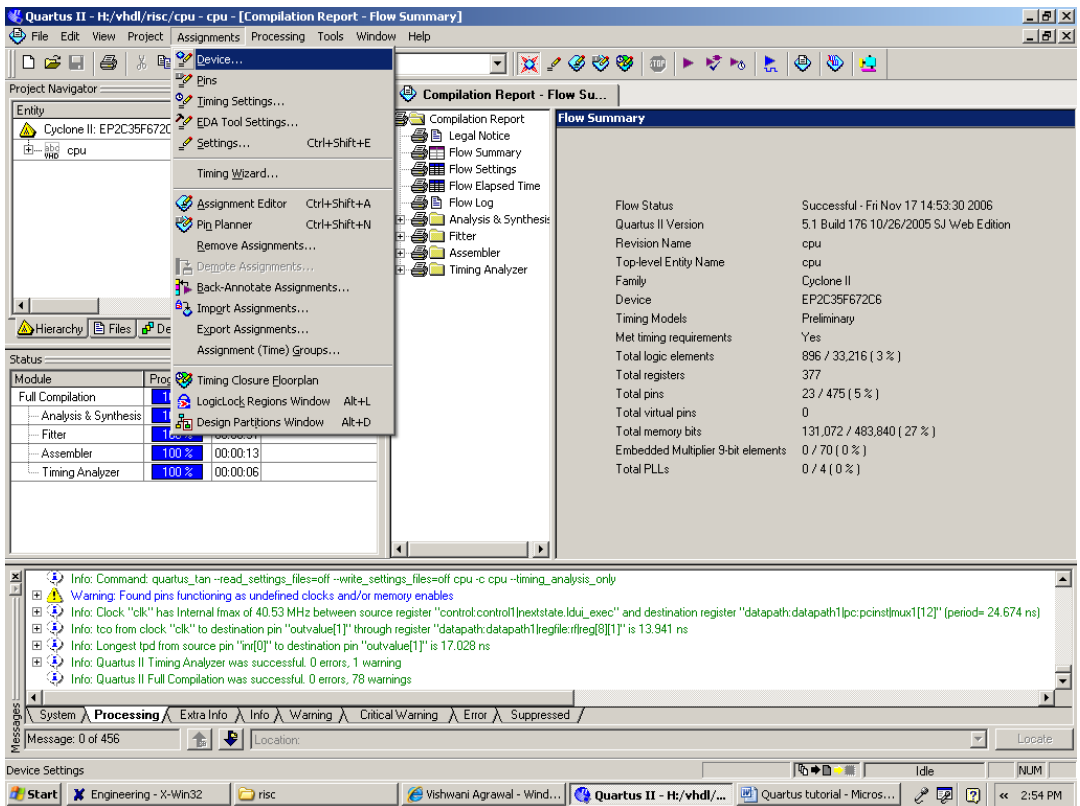
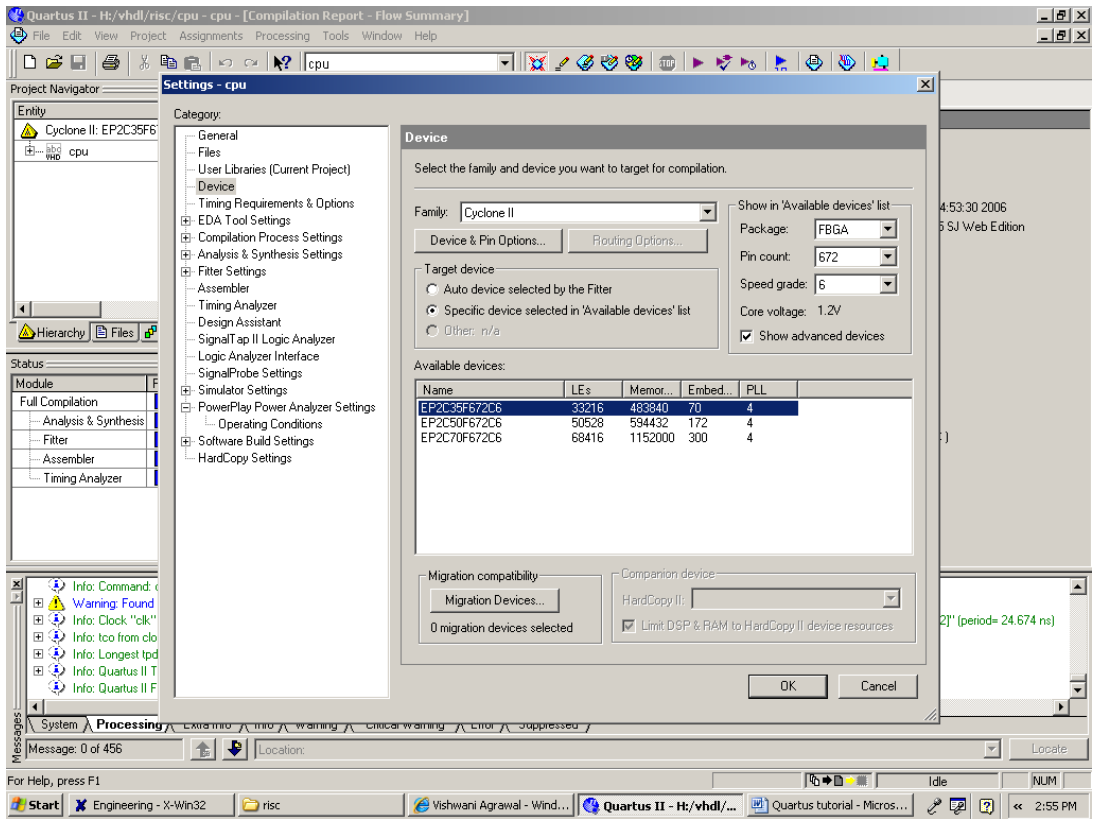
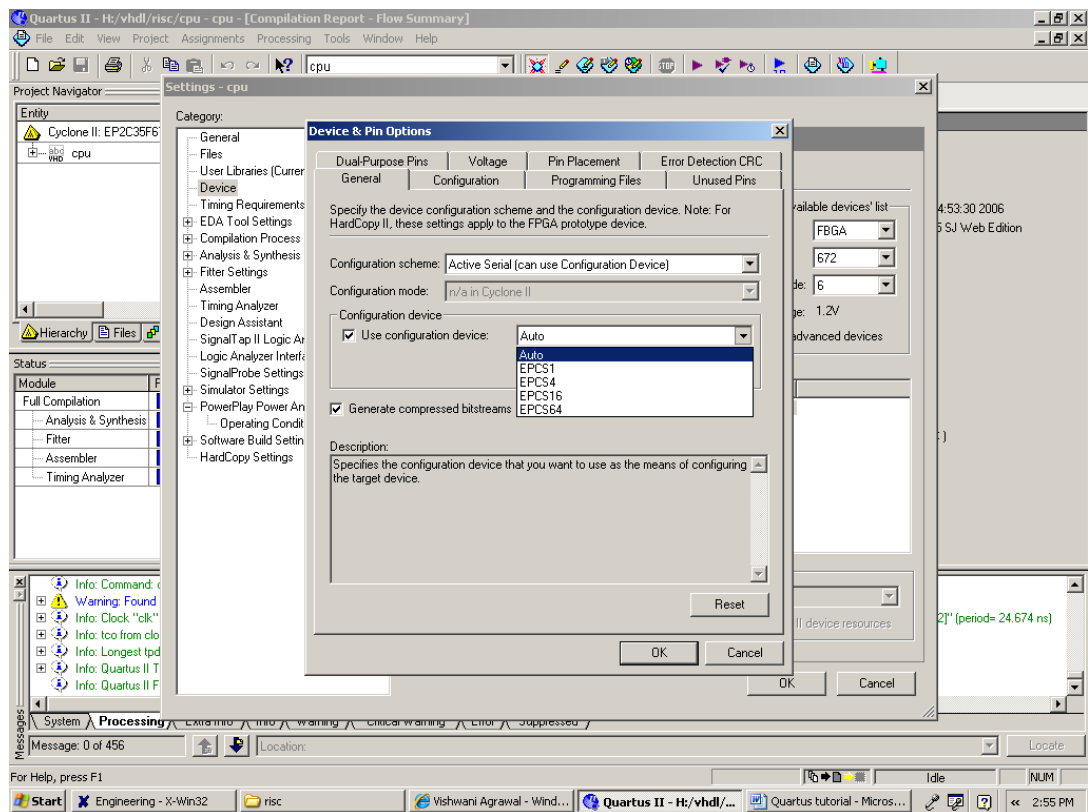

Fig. 21
Fig. 22
Fig. 23
12) The FPGA device must be programmed and configured to implement the designed circuit. The required configuration file is generated by the Quartus II Compiler's Assembler module. Altera's DE2 board allows the configuration to be done in two different ways, known as JTAG and AS modes. The configuration data is transferred from the host computer to the board by means of a cable that connects a USB port on the host computer to the leftmost USB connector on the board. In the JTAG mode, the configuration data is loaded directly into the FPGA device. The acronym JTAG stands for Joint Test Action Group. If the FPGA is configured in this manner, it will retain its configuration as long as the power remains turned on. The configuration information is lost when the power is turned off. The second possibility is to use the Active Serial (AS) mode. In this case, a configuration device that includes some flash memory is used to store the configuration data. Quartus II software places the configuration data into the configuration device on the DE2 board. Then, this data is loaded into the FPGA upon power-up or reconfiguration. Thus, the FPGA need not be configured by the Quartus II software if the power is turned off and on.
13) We will be using Active Serial mode of configuration. In this case, the configuration data has to be loaded into the configuration device on the DE2 board, which is identified by the name EPCS16. To specify the required configuration device select Assignments >Device, which leads to the window in Figure 21. Click on the Device & Pin Options button as shown in Fig. 22 to reach the window in Figure 23. Now, click on the Configuration tab. In the Configuration device box (which may be set to Auto) choose EPCS16 and click OK. Upon returning to the window in Figure 22, click OK. Recompile the designed circuit.